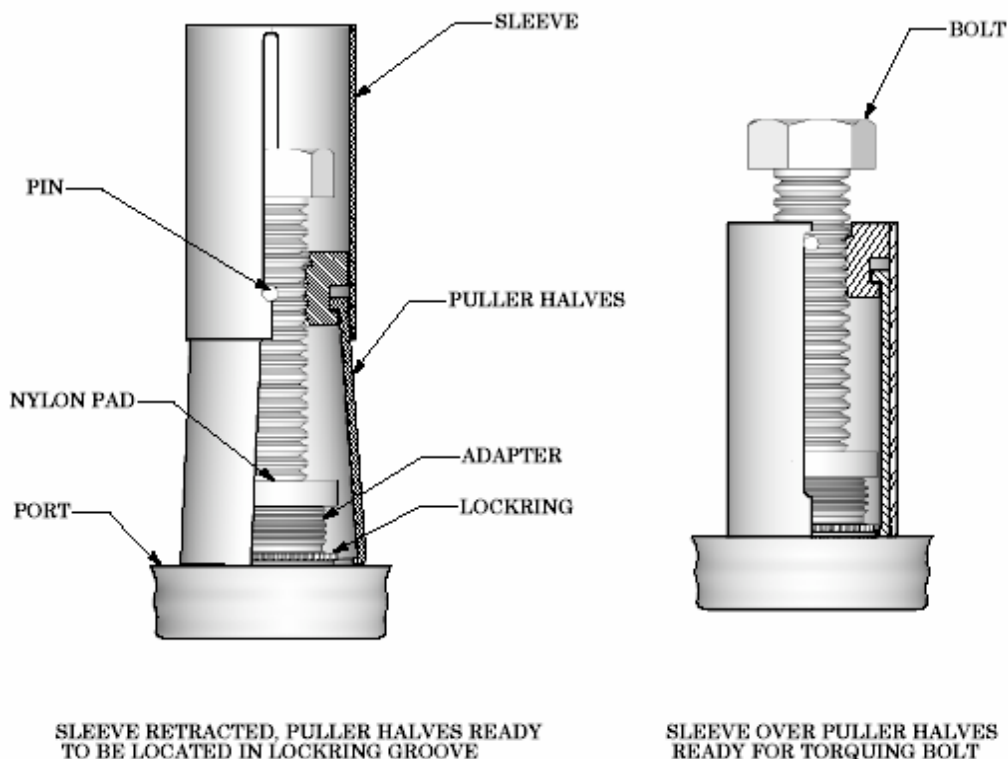

FIGURE 5 - LOCKRING RETRACTION
7.2.2. Spread the puller halves apart by retracting the sleeve from the tool until the pin bottoms in the groove of the sleeve per figure 5. Holding the puller halves apart, place tool over protruding adapter so that the nylon pad rests on the top surface of the adapter. Release the puller halves and locate in the groove of the lockring. Adjustment up or down is achieved by rotating the bolt head. Slide the sleeve over the puller halves and check for proper engagement of the puller halves in the lockring groove.